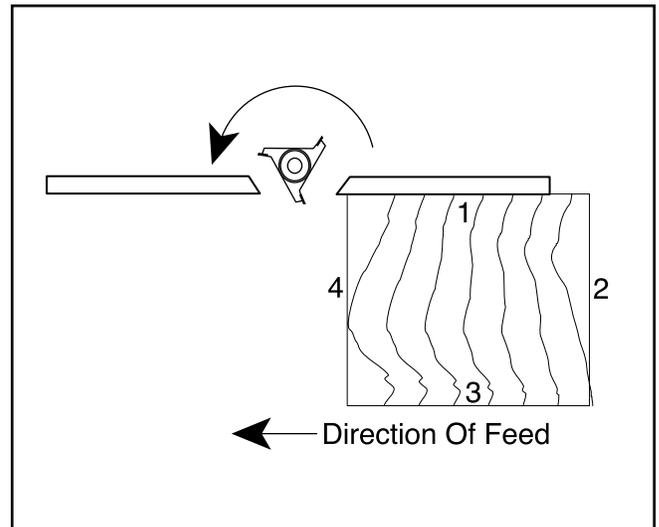

Figure 22. Fence adjustment for multiple cuts.
5. Always cut the end grain first when putting an edge around the perimeter of your workpiece. See **Figure 22**.